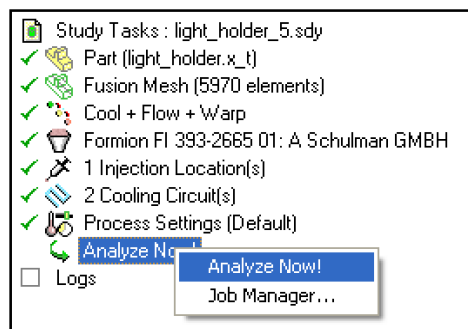

Figure 560: Study Task context menu
- Right-clicking the mouse on the **Analyze Now** icon  in the Study Tasks pane and selecting Job Manager as shown in Figure 560.